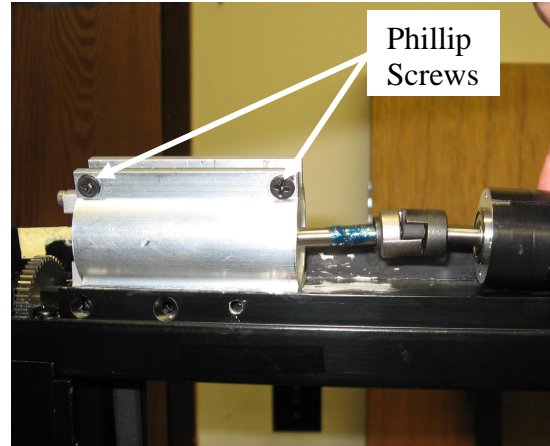

Figure 26
- 3) Loosen the 2 Phillip screws and slide the motor and output shaft from the motor mount (Figure 26)